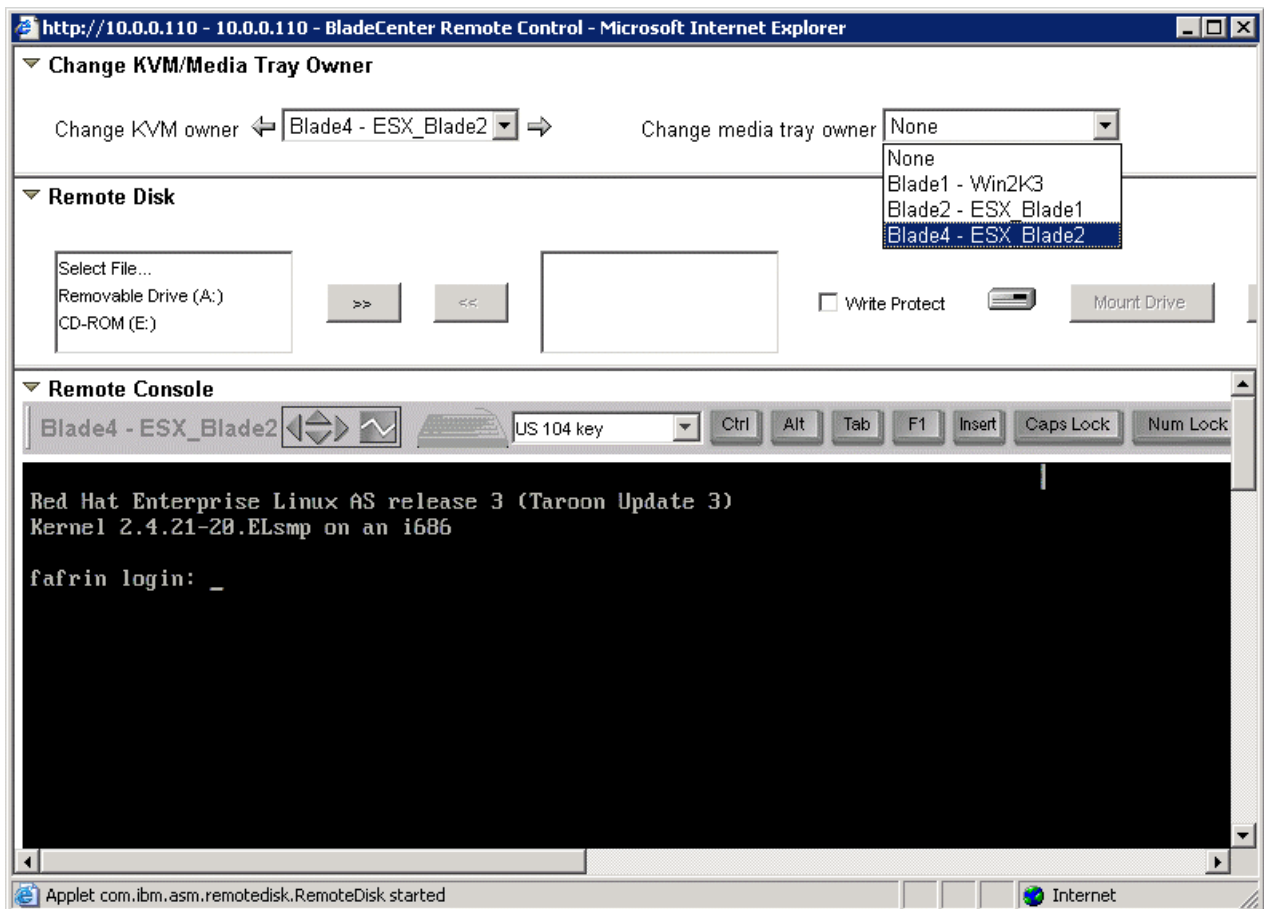

Figure 5 KVM and Media Ownership
8. When switching from managing one chassis to another, it is recommended that you close your browser after logging off from the first chassis, especially if you were using Remote Control in the first session. Otherwise, you may encounter errors with the Remote Disk applet (middle frame, Figure 5) in the second session such as “remotedrive.dll is not accessible” “exception: java.lang.NullPointerException.” “Initialization error. Library not installed” “Unsatisfied Link Error – Applet com.ibm.asm.remotedisk.RemoteDisk not initied.”